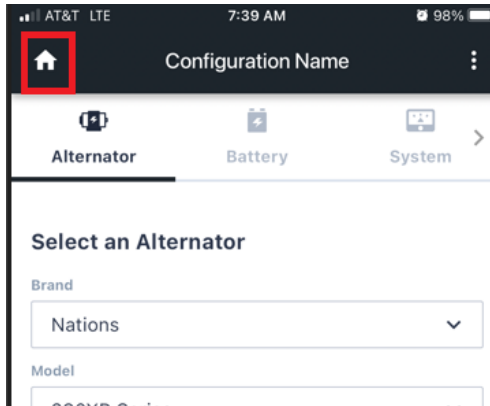

Figure 11A – Select Home button
13. Input the settings shown below in Figures 11A, 11B, 11C, 11D, 11E & 11F.